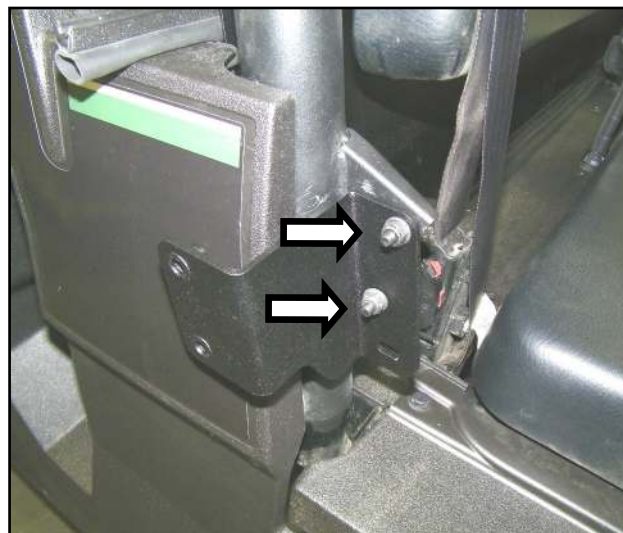

Fig. 3.2 B-Pillar Bracket, Passenger Side Only
- 3.2** Per figure 3.2, attach the passenger side B-Pillar bracket to the factory latch mounts on the ROPS with (2) 1/4-20 bolts and nuts, with the nuts toward the outside of the vehicle. Do not fully tighten.